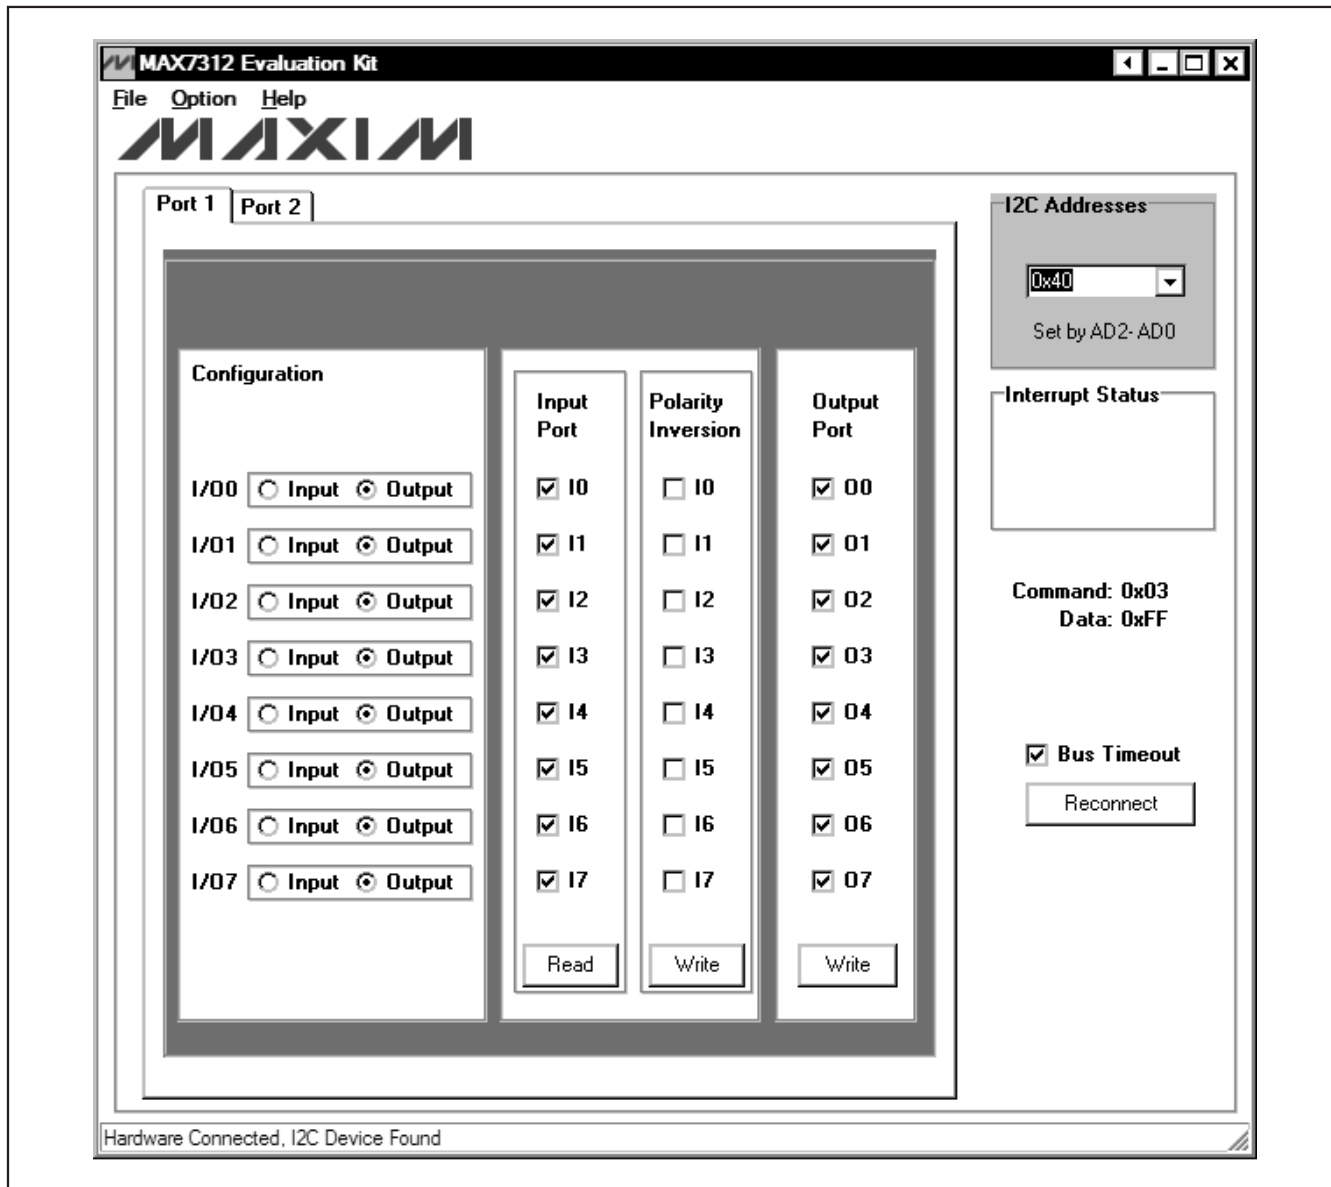

Figure 1. MAX7312 EV Kit Software Main Window (Port 1 Tab)
- 6) Start the MAX7312 EV kit software by opening its icon in the **Start | Programs** menu. The EV kit software main window appears, as shown in Figure 1.
To start the MAX7312 EV kit software, double-click on the MAX7312 EV kit icon that is created during installation. The GUI main window appears, as shown in Figure 1.
The **Port 1** tab sheet shown in Figure 1 controls all of the registers for I/O0–I/O7 of the MAX7312. In the **Configuration** group box, the user can set the I/O port